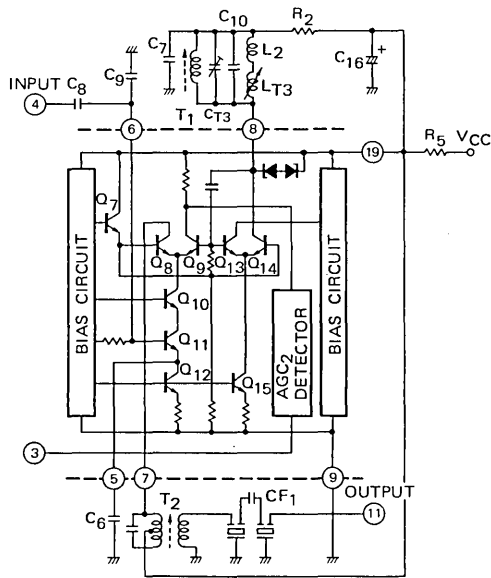
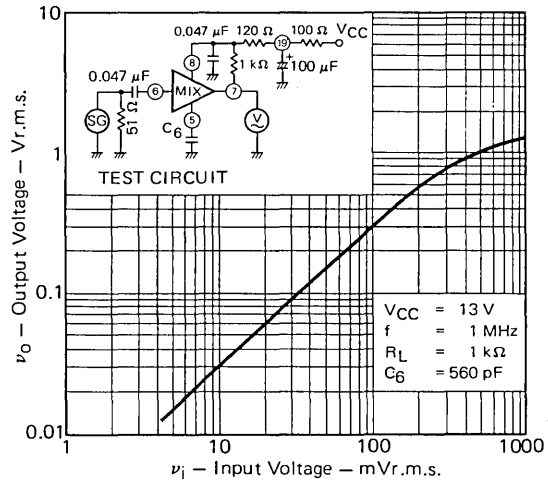

Fig. 5 Equivalent Circuit of Frequency Converter Stage.
Fig. 6 Voltage Transfer Characteristic of Converter Stage
The frequency converter stage contains a local oscillator and a mixer (Fig. 5). The local oscillator is composed of Q13-Q14 and its oscillation frequency is determined by an LC circuit connected through pin-8. The mixer consists of Q8-Q9-Q11. The RF signal fed through pin-6 is amplified by Q11 ($A_v=10\text{ dB}$, see Fig. 6). Then it is mixed with the local oscillation signal within Q8-Q9 and converted to an intermediate frequency (IF) signal by the selectors (T_1 and CF_1) connected to pin-7.